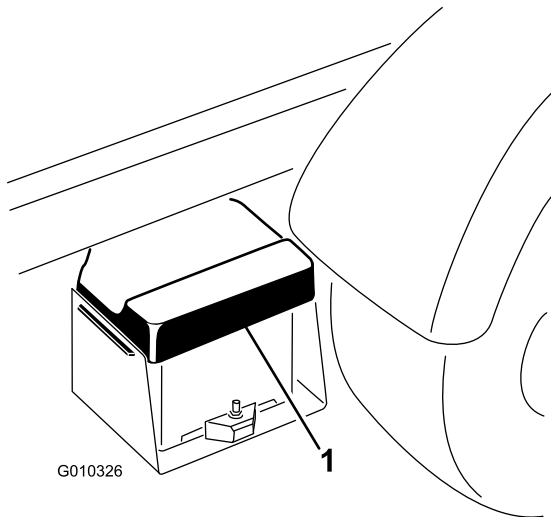

Figure 47
1. Squeeze the battery cover to release the tabs from the battery base, and remove the battery cover from the battery base (Figure 47).